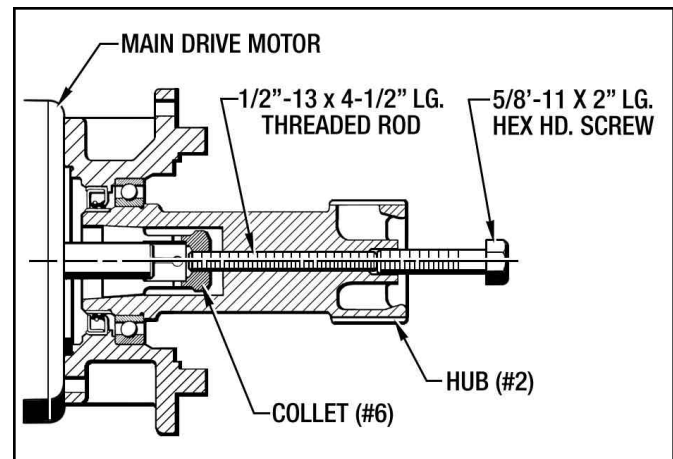

Figure 7.6 - Removing Hub From Main Motor Shaft
1. Remove (4) Cap Screws (#141) and separate the Main Housing Subassembly from the Input Subassembly. Jack screw holes are located in the C-Face Adapter (#1) to aid in separation.
2. Next remove (4) Cap, Screws (#142), which bolts the Motor to the C-Face Adapter (#1).
3. Remove Cap Screw (#143) from the Hub (#2). Insert a 1/2"-13 x 4-1/2" Lg. Threaded Rod into the Collet (#6) so that there is still approximately 1/4" of thread left in the end of the Hub (#2). Install a 5/8"-11 x 2" Lg. Hex Hd. Screw into the Hub (#2). Tighten the Hex Hd. Screw to loosen the Hub on the Collet. (See Figure 7.6)